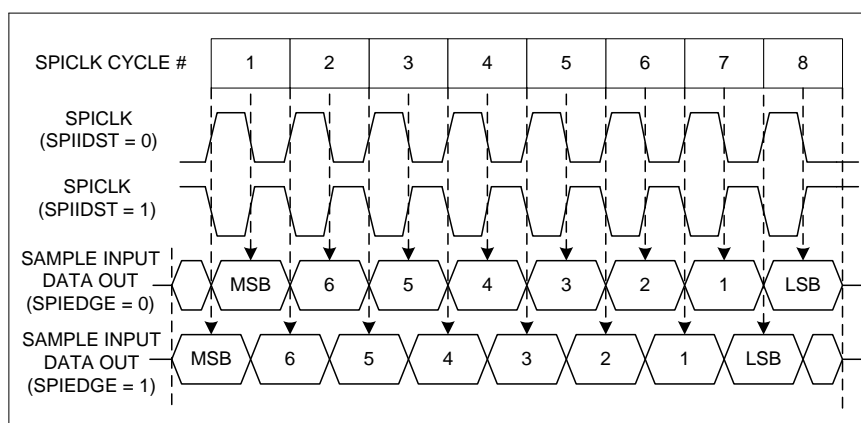

Figure 9-1 SPI timing
5. Select one of the four timing mode (refer to *Figure 9-1*)
5. Select one of the four timing modes (refer to *Figure 9-1*)